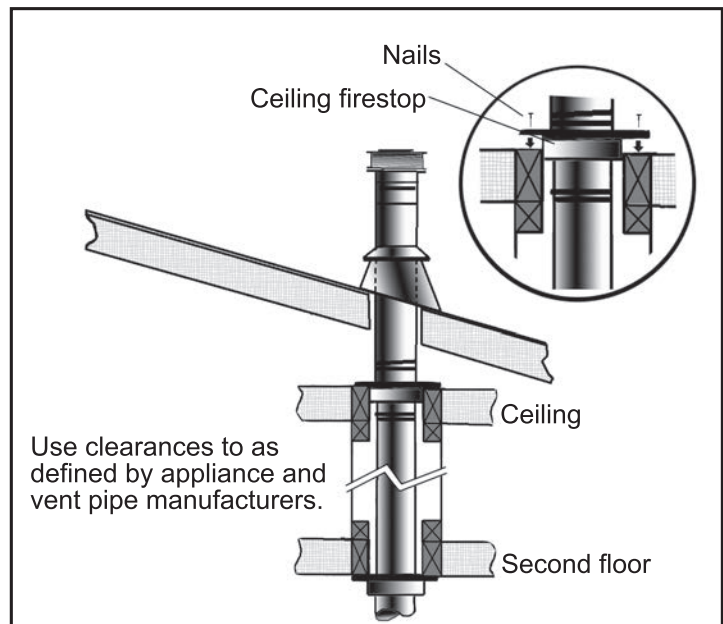

**Figure 53 Use of Wall Straps.**
- (1) If an offset is necessary in the attic to avoid obstructions, it is important to support the vent pipe every **3' (914 mm)**, to avoid excessive stress on the elbows, and possible separation. Wall straps are available for this purpose (see Figure 53).
- (2) When ever possible, use 45° degree elbows instead of 90° degree elbows. The 45° degree elbow offers less restriction to the flow of flue gases and intake air.